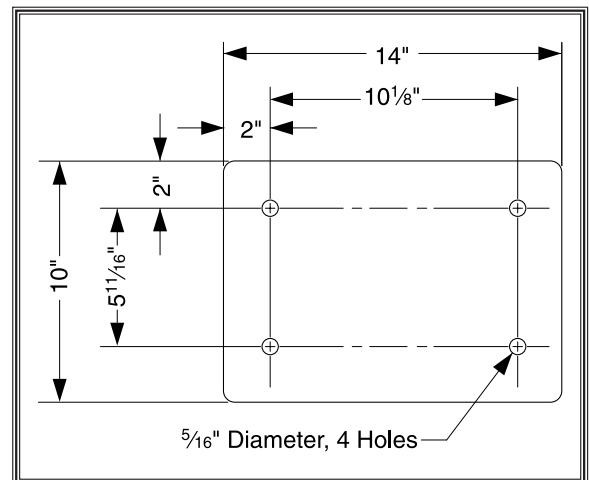

Figure 4. Dimensions for mounting 6" Bench Grinder.
2. Fasten the 6" Bench Grinder to your supporting surface, using the dimensions in **Figure 4**. **DO NOT** overtighten the mounting bolts or you will crack the base.